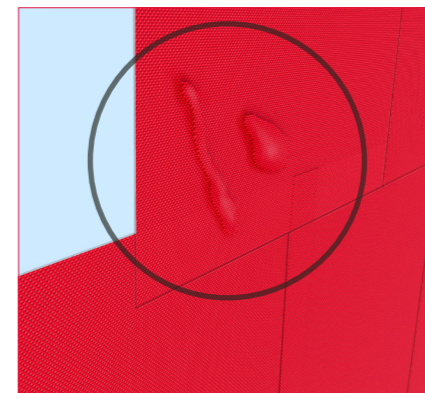
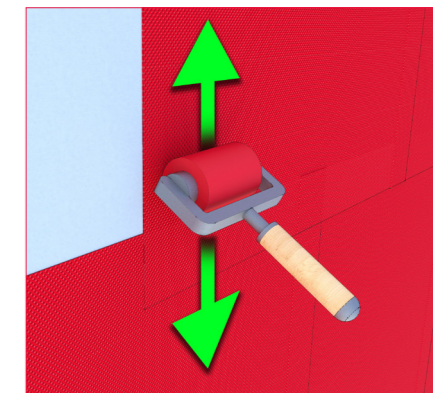

Fig.1 'Bubbles' caused by insufficient pressure when installing Wraptite.
Fig.2 Roll Wraptite to release air bubbles and ensure membrane is well adhered.
- **IMPORTANT:** Failure to roller the membrane effectively may result in poor adhesion to the substrate. Poor adhesion may result in air pockets (bubbles) appearing, especially when Wraptite is facing into direct sunlight. (see Fig.1) To remedy this, roller over the bubbles ensuring a proper bond to the substrate is achieved. (see Fig.2)